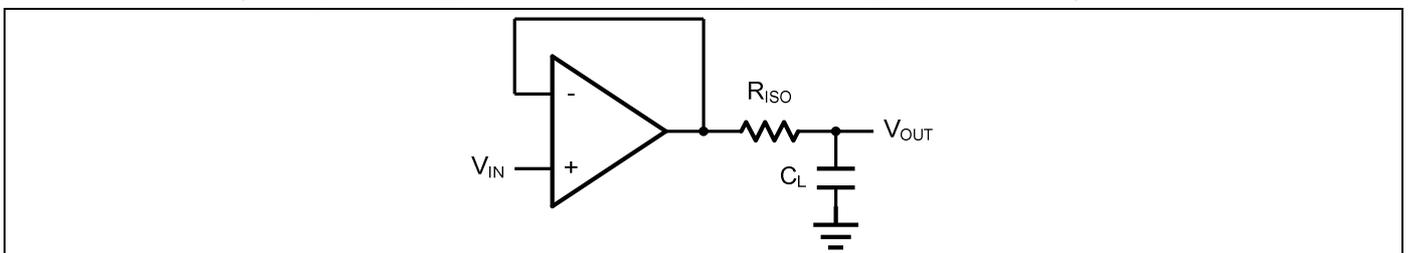
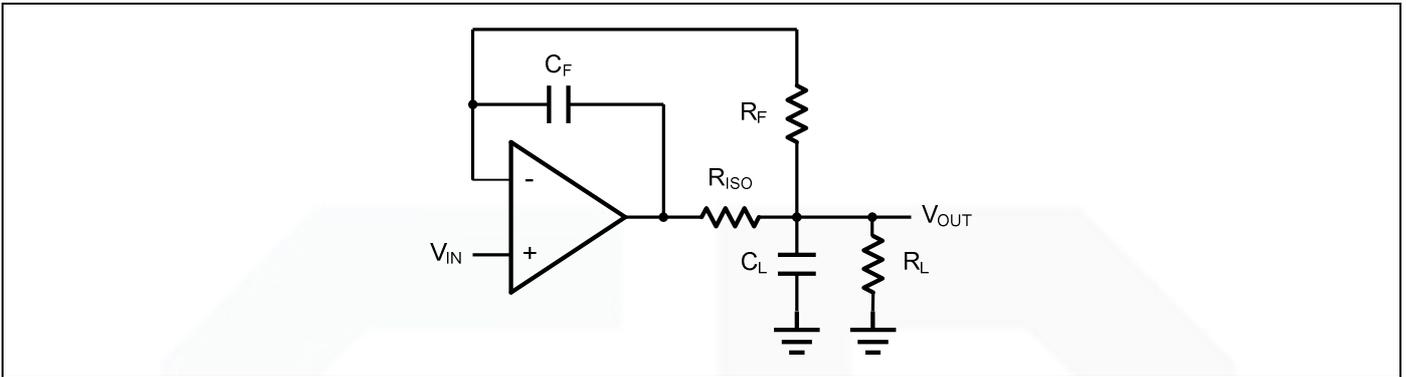

Figure 2. Indirectly Driving a Capacitive Load Using Isolation Resistor
Figure 3. Indirectly Driving a Capacitive Load with DC Accuracy
The GS814X family is optimized for bandwidth and speed, not for driving capacitive loads. Output capacitance will create a pole in the amplifier's feedback path, leading to excessive peaking and potential oscillation. If dealing with load capacitance is a requirement of the application, the two strategies to consider are (1) using a small resistor in series with the amplifier's output and the load capacitance and (2) reducing the bandwidth of the amplifier's feedback loop by increasing the overall noise gain. Figure 2. shows a unity gain follower using the series resistor strategy. The resistor isolates the output from the capacitance and, more importantly, creates a zero in the feedback path that compensates for the pole created by the output capacitance.
The circuit in Figure 3 is an improvement to the one in Figure 2.  $R_F$  provides the DC accuracy by feed-forward the  $V_{IN}$  to  $R_L$ .  $C_F$  and  $R_{ISO}$  serve to counteract the loss of phase margin by feeding the high frequency component of the output signal back to the amplifier's inverting input, thereby preserving the phase margin in the overall feedback loop. Capacitive drive can be increased by increasing the value of  $C_F$ . This in turn will slow down the pulse response.